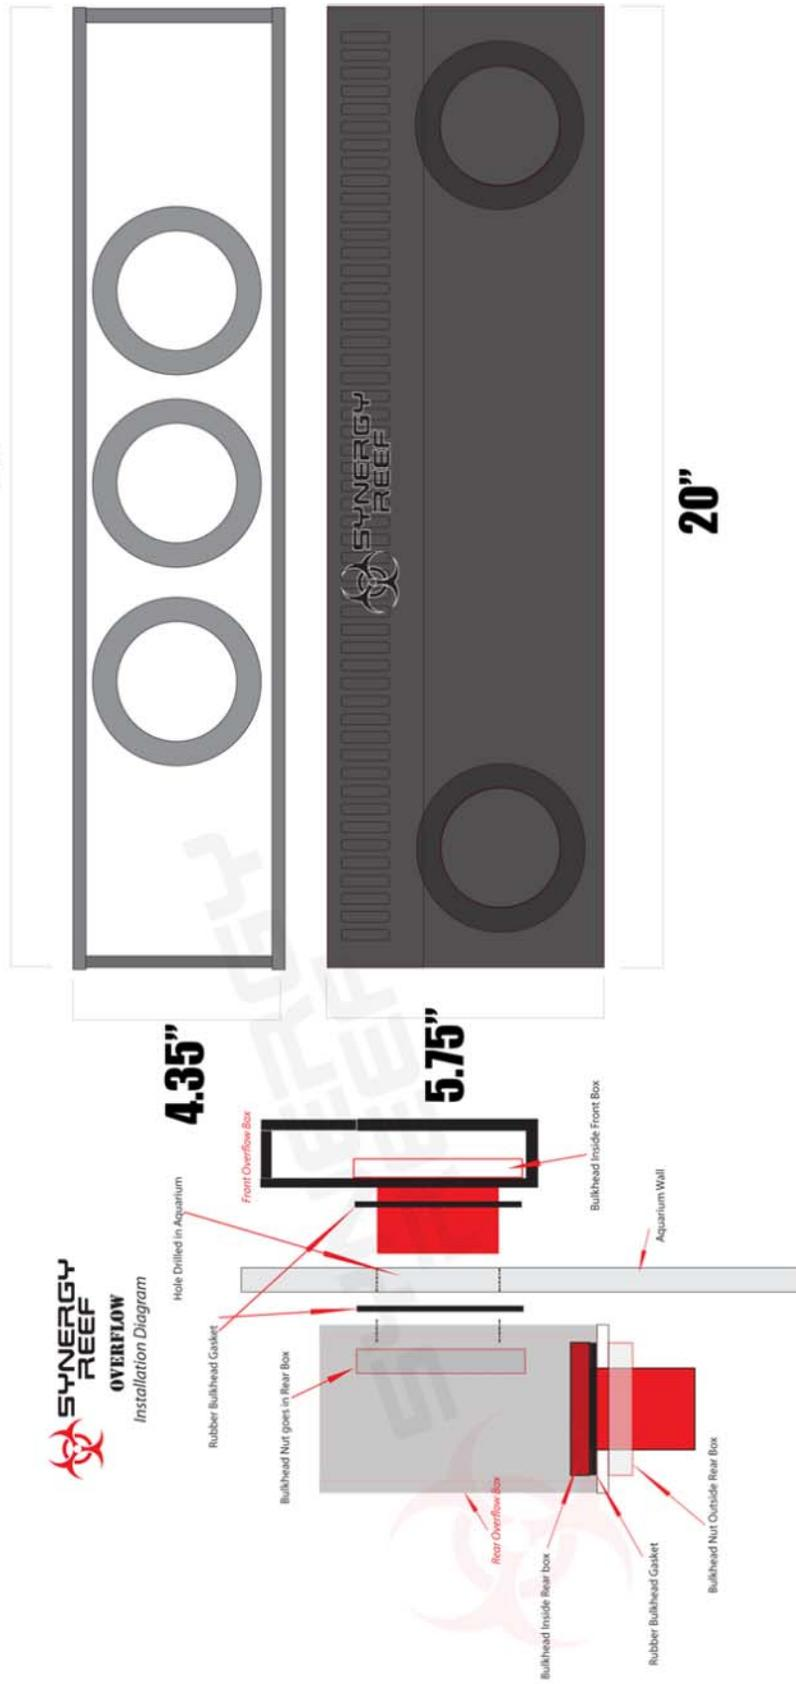

FIGURE A.1
9. Remove the nuts from the bulkheads. Place 1 gasket on each of the bulkheads on the front overflow box and mount the Synergy Reef Overflow by inserting the bulkheads through the holes you just drilled from the inside of the tank, this gasket will be between the front overflow box and the tank. Get another gasket and put it over each bulkhead on the outside of the tank. This gasket will be between the tank and the external box. Insert the external box through the bulkheads and secure it in place with the 2 nuts your removed earlier and hand tighten. Over tightening the bulkheads can cause the gaskets to leak. See figure A.1 on next page.